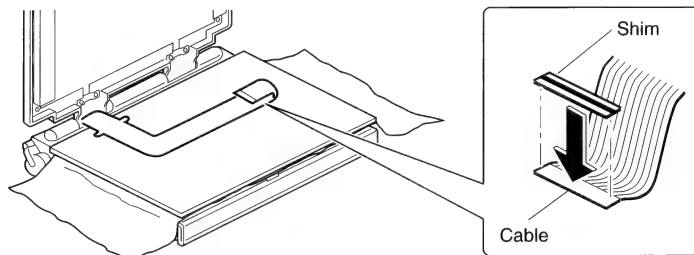

Figure 10 Installing the Shim
7. Turn back the display cable and press the shim onto the back (the nonconductive side) of the display cable connector (Figure 10). Make sure that the shim is unwrinkled and flush with the edges of the cable and that it does not cover the connector traces.